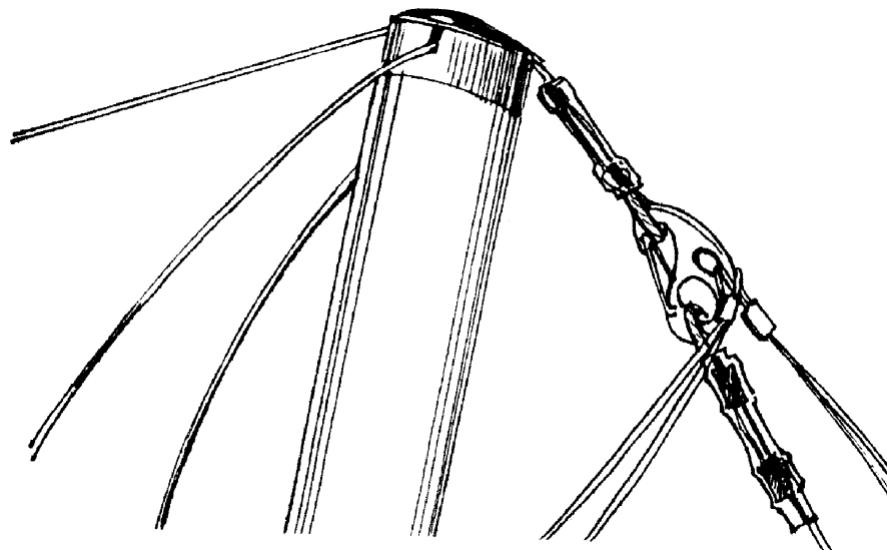

Fig. 18
2.1.20. Attach the hook of the top rear wire and the luff lines to the thimble of the top front wire (Fig. 18) and spread out wires, attached to the hook, properly.